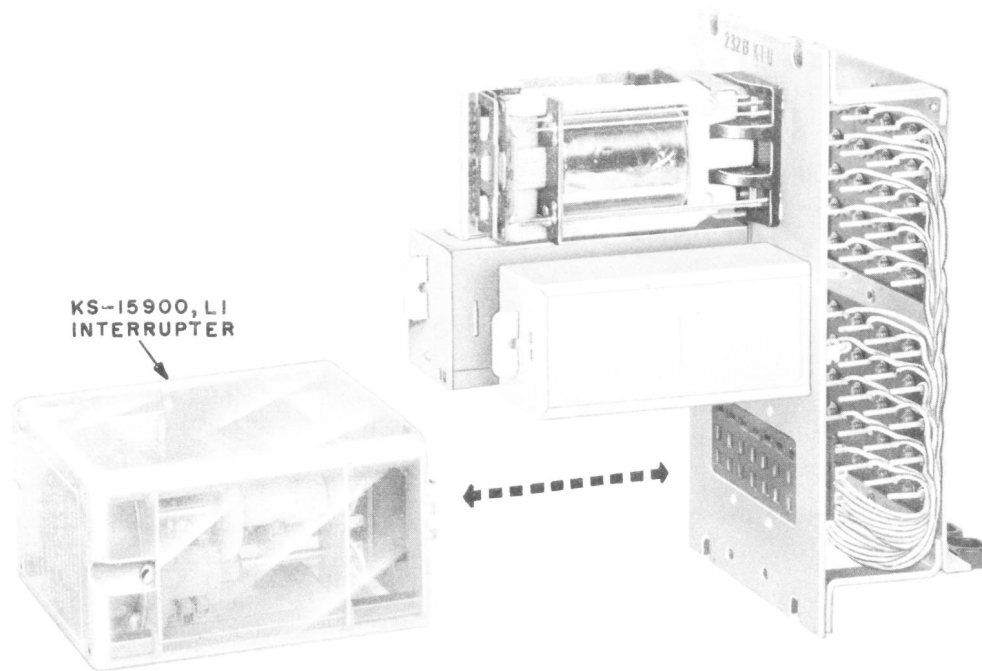

Fig. 2 — Installation of Interrupter Unit
1.08 The KS-15900, List 1 interrupter unit is installed as shown in Fig. 2. When installing interrupter, be sure it is fully seated in its